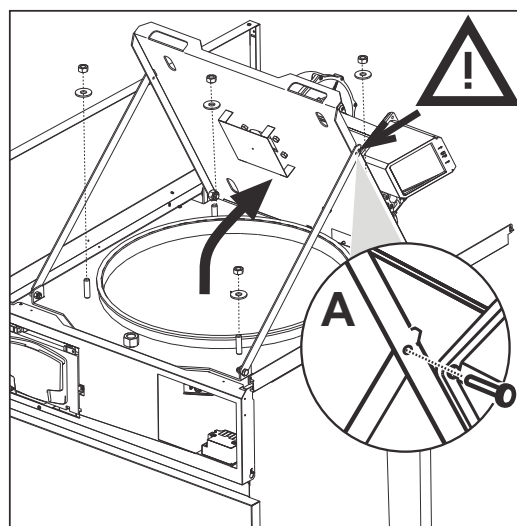

fig. 69
2. Remove the four nuts and washers (fig. 69).
3. Open the burner door (fig. 69).
After opening the burner door and hooking it onto the support arms make sure to insert a pin in the safety hole (ref. A - fig. 69) to prevent the risk of accidental release during maintenance operations.